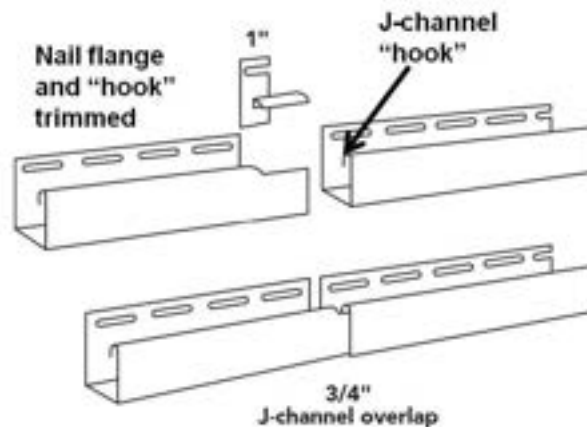

Figure 11-7. J-Channel Splice.
3. Where multiple J-channel pieces must be used for long sections, splice the ends as shown in Figure 11-7, with the overlapped end pointing away from the main line of sight. Carefully cut 1" off the nailing flange and back "hook" from one piece and insert that end into the factory end of the adjoining piece.